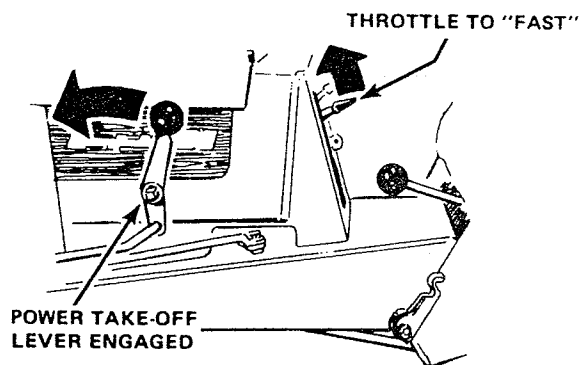

FIGURE 4
3. Engage the mower by pushing the power take-off lever forward and down all the way. (See Figure 4).